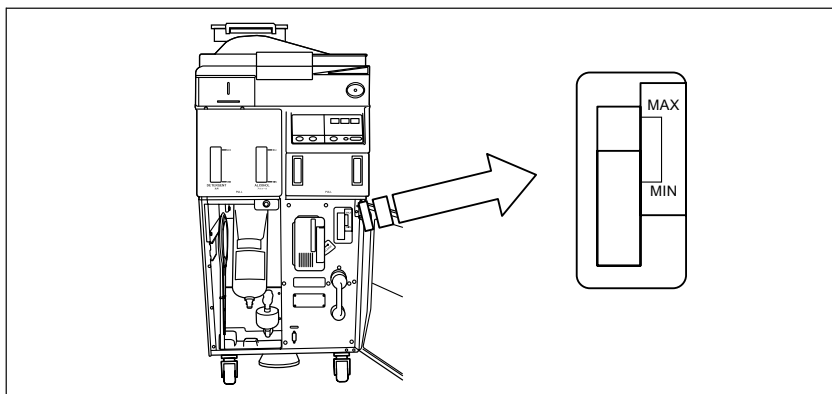

Figure 7.71
7. When the beeps increase in frequency, the level of disinfectant solution is near full. Stop pouring the disinfectant solution and check the disinfectant solution indicator located at the front of the equipment and slowly add more solution (see Figure 7.71).